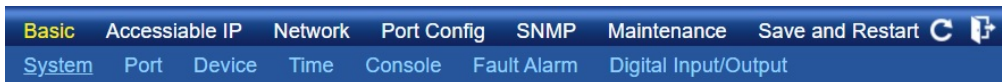

Figure 3-2-4: Main menu
4. The Main Menu in the middle of the Web page lets you access all the functions and statuses. It appears as shown in Figure 3-2-4.